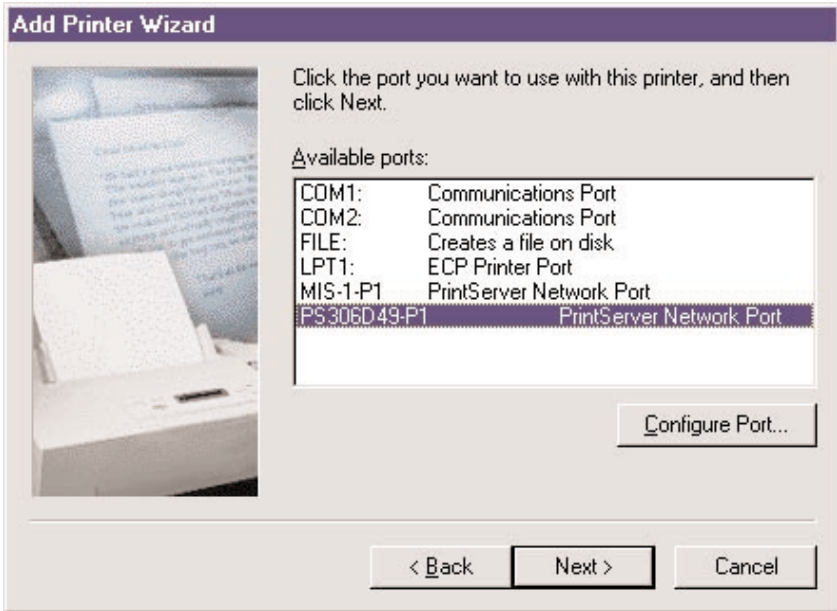

Figure 4-16. Selecting the network port.
5. If your printer came with an installation disk, click on the **Have Disk** button. The Install prompt will appear, and the system will ask where the disk is located. Type in the disk's location (for example, C:\) and press **Enter**. The drivers will be loaded. Then follow the instructions that appear on your screen. Select the suitable printer manufacturer and model, then click on the **Next** button. Figure 4-16 will appear.
If you don't have an installation disk, simply select the correct manufacturer and printer model from the on-screen lists. Select **Next**; Figure 4-16 will appear.
To connect the print server to a network port, highlight the print server's network port that was created during the Client Installation process (see the Available Ports list in Figure 4-16). Then click on **Configure Port**. A protocol selection screen appears (not shown in this manual). Select the printer port's protocol (either Auto, TCP/IP, IPX, or NetBEUI) and click **OK**. The screen shown in Figure 4-16 will reappear. Click on **Cancel** to cancel your changes, or click on **Next** to go to the next screen.